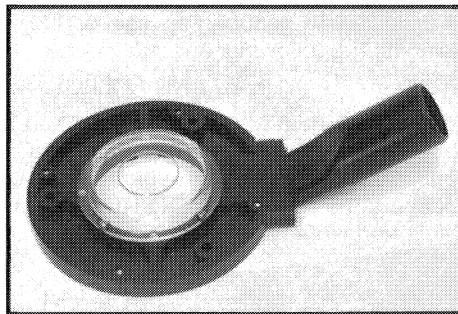

Fig. 3
2. Use two #8-32 x 1/2" screws (from hardware package), to assemble the hose connector to the vacuum base (see Fig. 3).